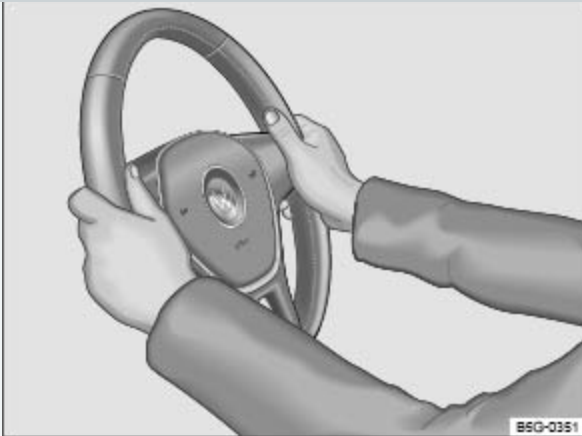

Fig. 50 Steering wheel: 9 o'clock and 3 o'clock positions.
- Adjust the steering wheel so that it can be held with hands at the 9 o'clock and 3 o'clock positions on the outside of the steering wheel rim and with the arms slightly bent at the elbow ⇒ Fig. 50.